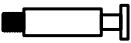

**Figure 4**
4. Insert the cam Locks (BB) into the left side panel (C), and then Right side panel (D). Screw in the Cam Dowels (AA) Left front side panel (E) and right front side panel (F). Insert the wood Dowels (CC) into the left front side panel (E) and right front side panel (F) Fix it by tightening the cam, as shown in Figure 4.